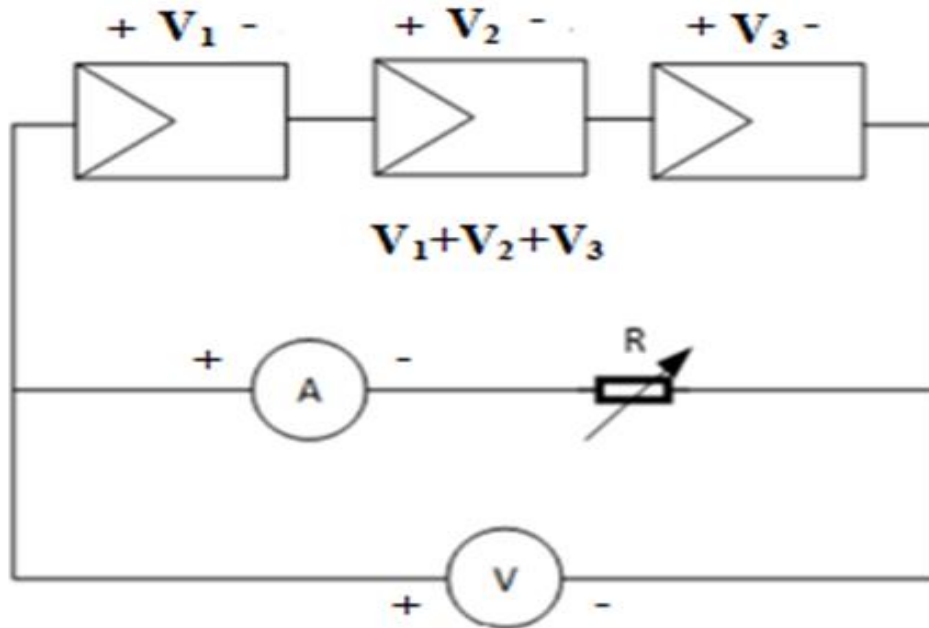

Figure 16.4 Solar cells in series
3. Connect a potentiometer to the output of the series connection shown in Figure 16.4. Connect the voltage meter in parallel with the solar cells, and the current meter in series to measure the output voltage and current respectively.